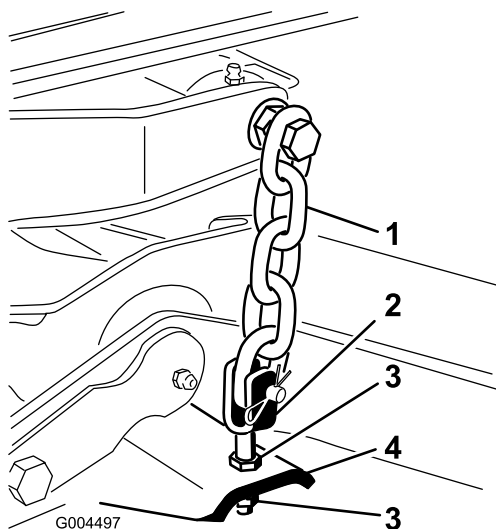

Figure 77
7. Adjust the jam nuts securing the rear deck yokes/chains to raise the rear of the deck so that the blade pitch is set to 5/16 inch (8 mm) (Figure 77).